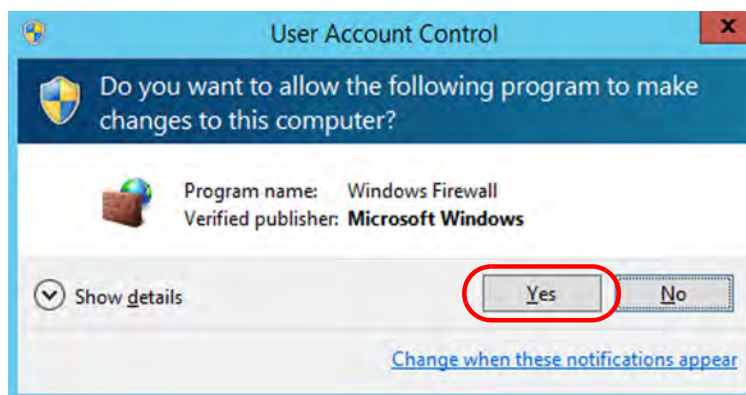
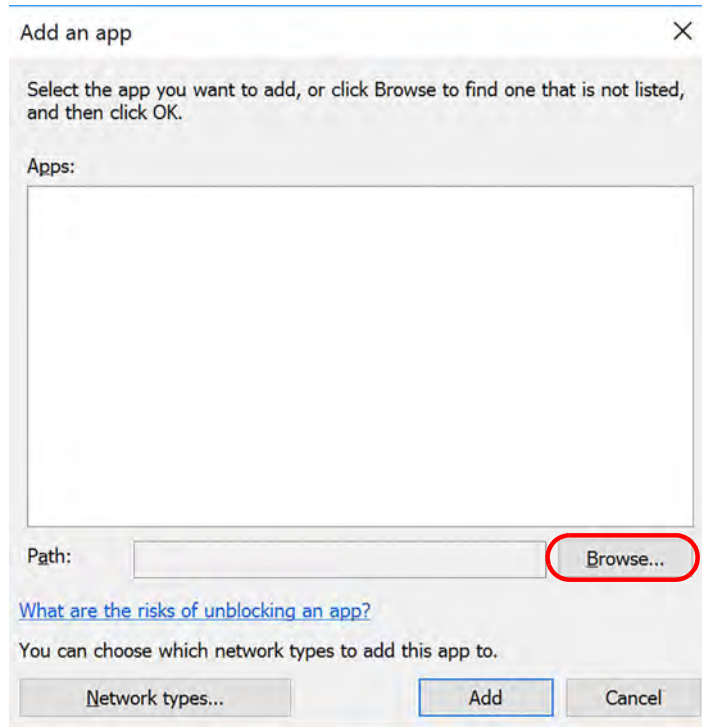

Figure H.5: **Windows Server** 2016/2019: User Account Control
Figure H.6: Add an App
5. Select **Yes** (Figure H.5). The *Add an app* dialog box appears (Figure H.6).